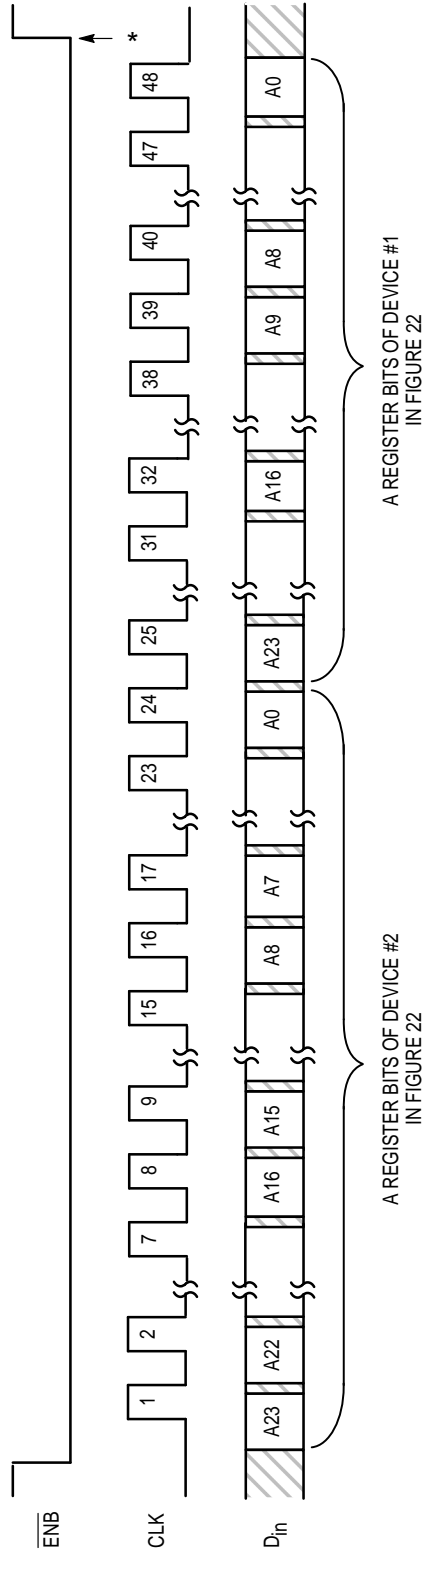

Figure 24. Accessing the A Registers of Two Cascaded MC145202 Devices
2. Optional load pulse. At this point, the bits R0 through R12 are transferred to the second buffer of the R register. The R counter begins dividing by the new ratio after completing the rest of the present count cycle. CLK must be low during the ENB pulse, as shown. The C and A registers are not affected. The first buffer of the R register is not affected. Also, see note of Figure 24 for an alternate method of loading the second buffer in the R register.